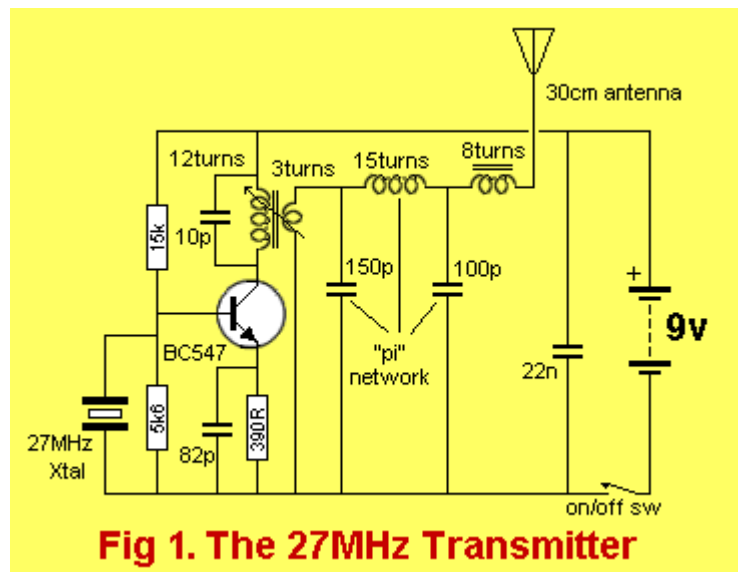

Fig 1. The 27MHz Transmitter
The first two circuits (figs 1 & 2) form a single-channel transmitter-receiver link. The second receiver (fig 7) uses a split supply to power a motor in the forward and reverse direction (it uses the same transmitter as shown in fig 1). The third transmitter & receiver, (figs 12 & 22) is a multi-channel design, with a chip in the receiver. Then we cover a 27MHz walkie talkie. This is a 4 transistor model. It uses the same type of super-regenerative front-end as our receiver circuits and injects Amplitude Modulated (AM) audio onto the signal. The result is a very noisy transmission but a very effective way to achieve both transmission and reception with the minimum of components. Most of the parts have a dual function, operating in both transmit and receive mode. This makes the circuit very efficient, component-wise.
Fig 1 shows a simple 27MHz transmitter producing a carrier.